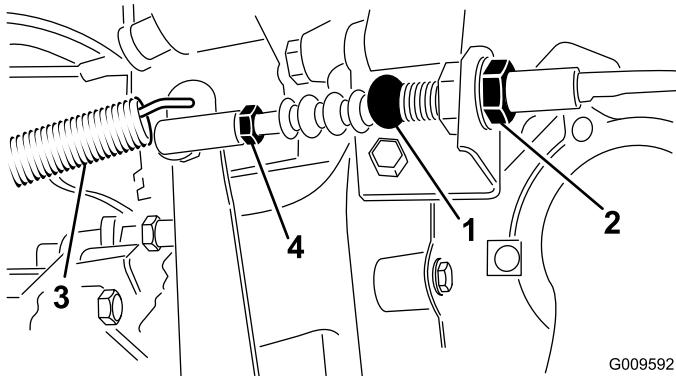

Figure 57
1. Loosen the jam nuts securing the clutch cable to the bracket on the bell housing (Figure 57).